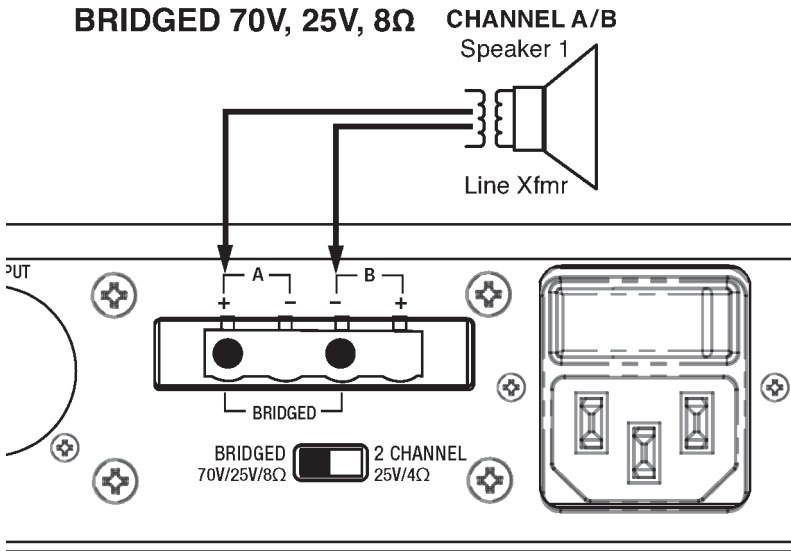

Figure 1. Bridged Wiring Diagram
5. Connect the loudspeaker wires to the Amplifier Output Terminals, which are labeled A +/- and B +/-, as appropriate for the desired mode of operation (see Figures 1 and 2).
Bridged mode operation requires the speaker wires to be connected across a single, different speaker terminal on each channel (A+ and B-). (See Figure 1.)